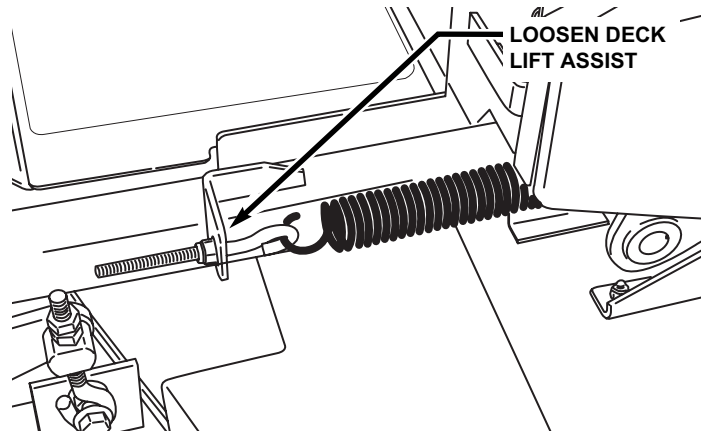

FIGURE 4.9a
2. **IMPORTANT - STORED ENERGY.** Relieve tension on deck lift assist spring by backing off nut on eyebolt. Failure to relieve tension could result in personal injury. See Figure 4.9a.